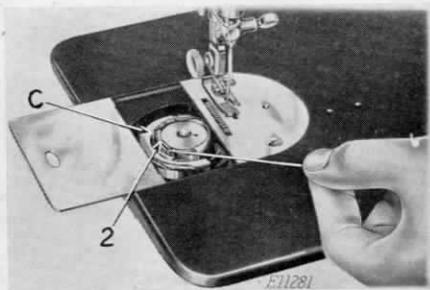

FIG. 11. BOBBIN CASE THREADED
Draw the thread toward you between the bobbin case and the tension spring until it passes the notch (2, Fig. 11) in the bobbin case, as shown in Fig. 11.
The tension on the bobbin thread is regulated by the screw (C, Fig. 11) in the bobbin case tension spring. To increase the tension, turn the screw (C) over toward you. To decrease the tension, turn this screw over from you.